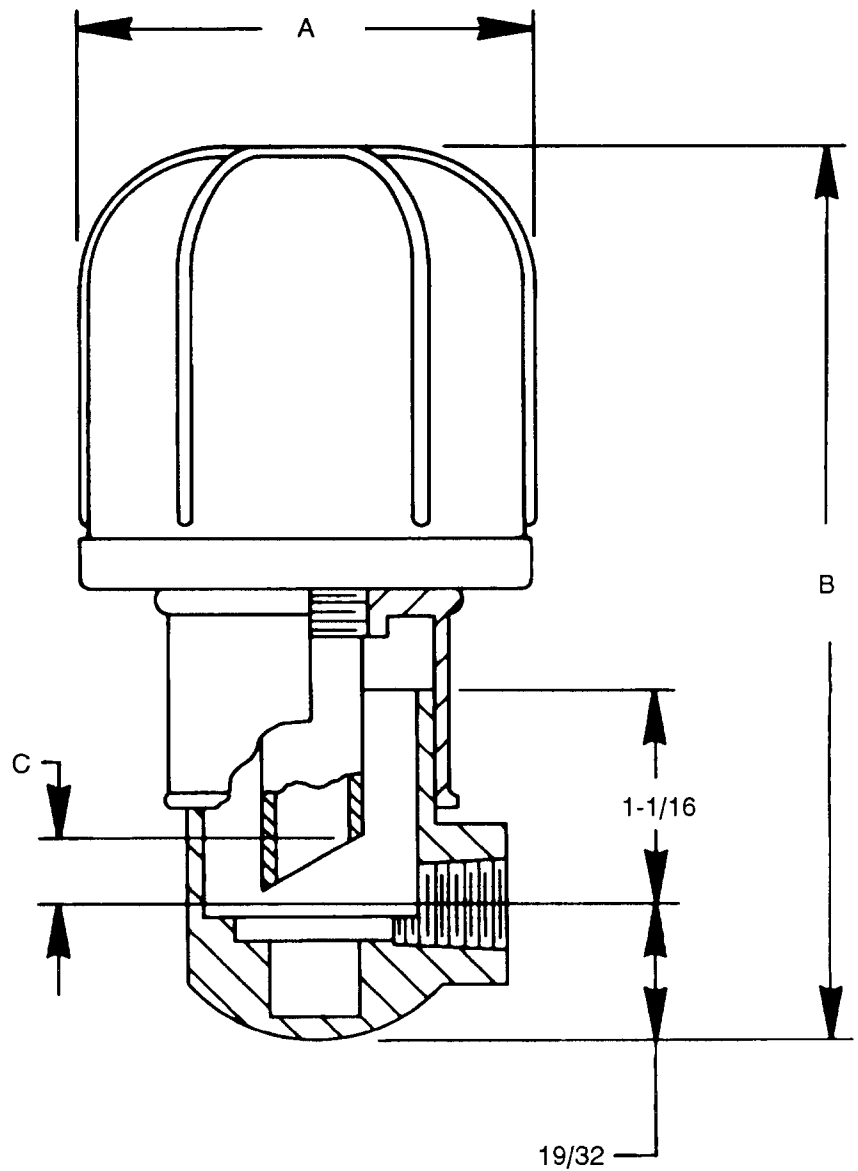

Figure 5. Trico Type E Oiler, Catalog Number 30054
- a. To add oil to bearing housing: Add oil through top port of bearing housing (99) until oil is sighted through view port (143). Continue to add oil through oiler (125) to bearing housing (99) until oiler (125) stabilizes (bubbling stops). Refer to figure 5 for illustration of oiler (125). Inspect oiler (125) on a daily basis to check oil level in bearing housing (99). For
To add oil to bearing housing: Add oil through top port of bearing housing (99) until oil is sighted through view port (143). Continue to add oil through oiler (125) to bearing housing (99) until oiler (125) stabilizes (bubbling stops). Refer to figure 5 for illustration of oiler (125). Inspect oiler (125) on daily basis to check oil level in bearing housing (99).